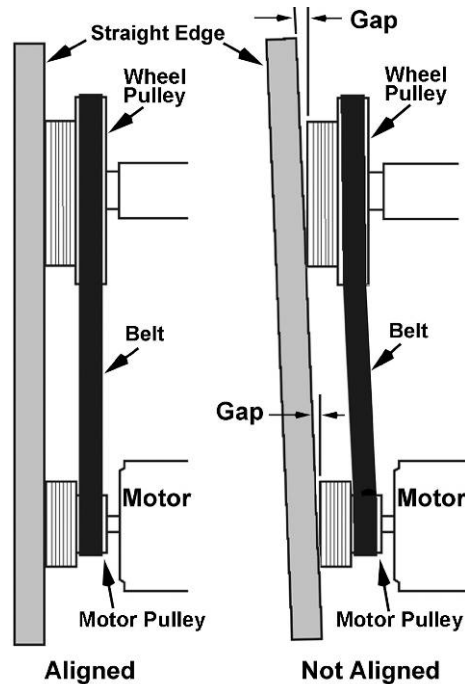

Figure 29
1. Uses a straight edge placed against the wheel pulley and motor pulley and refer to Figure 29 to determine if alignment is necessary.
4. Confirm the alignment of the poly V-belt by placing a straight edge against the faces of both pulleys, (Figure 29). If the straight edge lies flush against both pulleys, then the pulleys and belt are aligned.